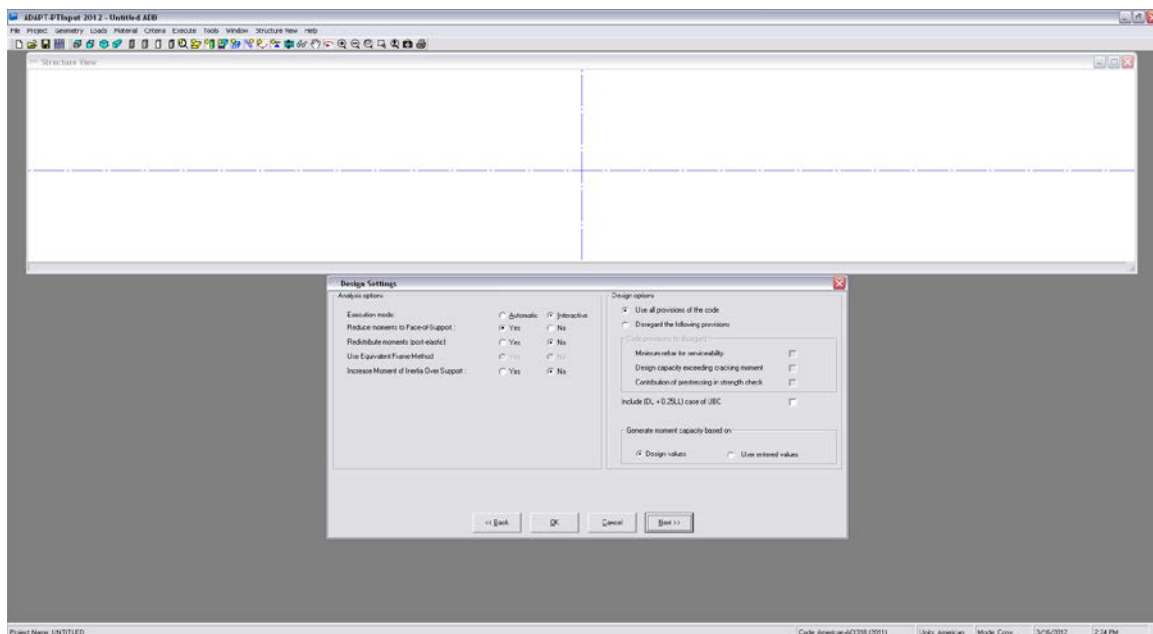

FIGURE 2.1-3
2.1.1.3 Design Settings (Fig. 2.1-3)